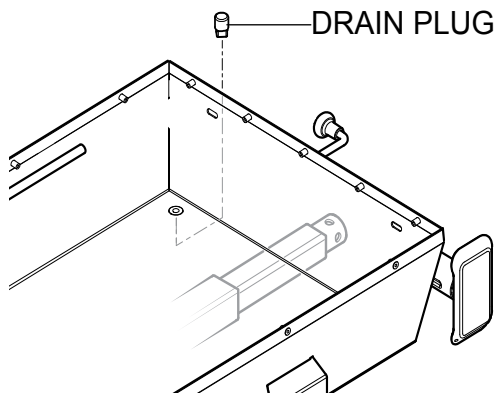

Figure 8. Drain Plug Installation
2. From under the tub base, install the drain plug by threading and securing it tightly (Figure 8).